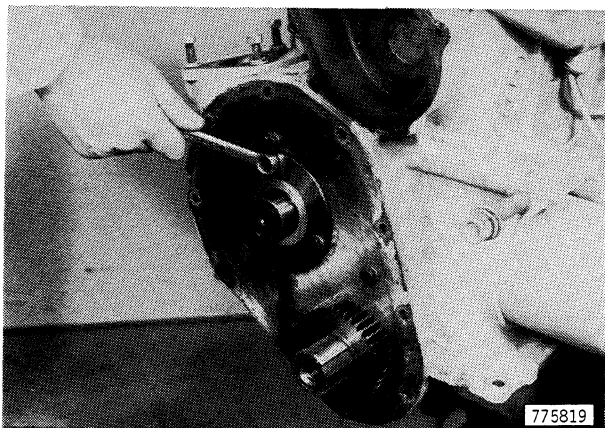

Figure 73
- 8. Remove the cap screws from the locating plate for the camshaft, Figure 73.